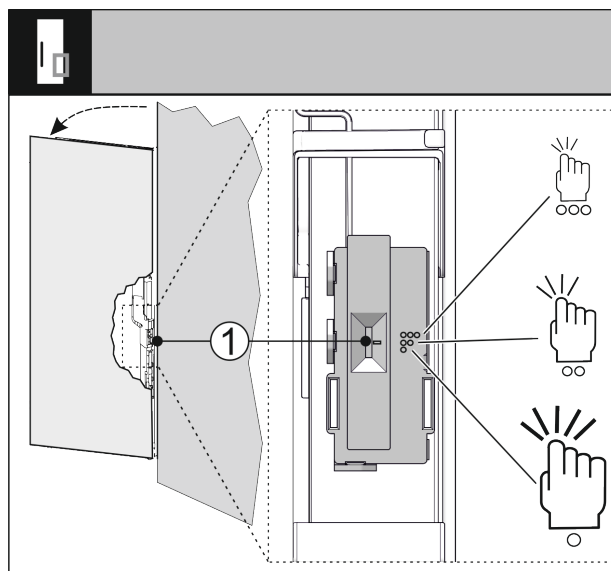

Fig. 34
You can use a switch Fig. 34 (1) to adjust the sensitivity of the knocking sensor. The switch is on the bottom third of the door on the hinge side.
- ▶ Move the switch Fig. 34 (1) to the required switch position.